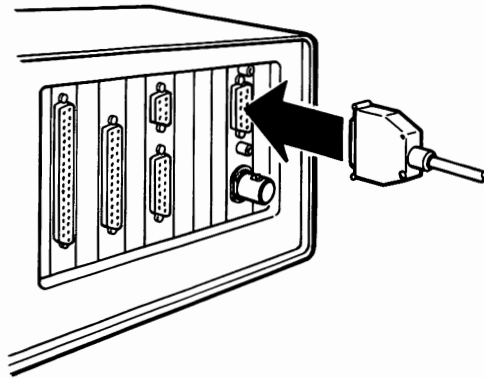

Figure 2-15. Connect a D-connector to the XC 24 Network Access Board.
17. Connect the D-connector attached to your drop cable to the connector on the XC 24 Network Access Board (Fig. 2-15).